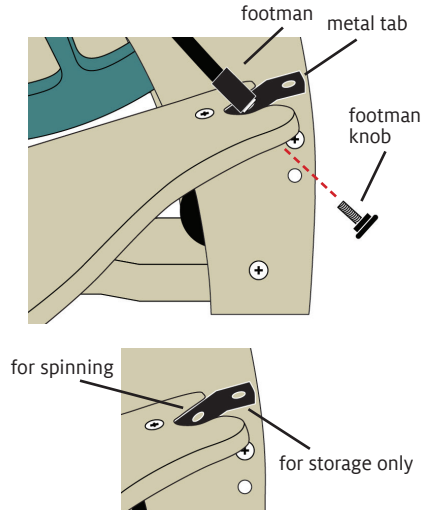

FIGURE 3: ATTACH FOOTMEN
4. Attach the footmen: From underneath the treadles, insert the footman knob shafts into the holes at the **front** of the metal tabs. Screw the knobs into the ends of the footmen (Figure 3).